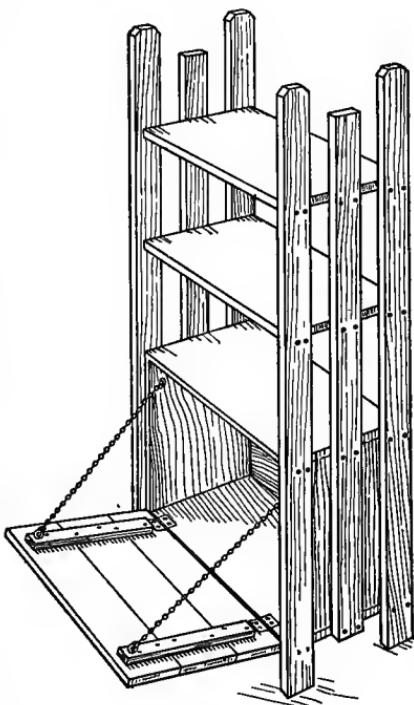

FIG. 191.—A Book and Magazine Rack.
**A Book and Magazine Rack.** The top shelf of the rack shown in Fig. 191 may be used for books and magazines, and the bottom cupboard to hold supply catalogues, and odds and ends.